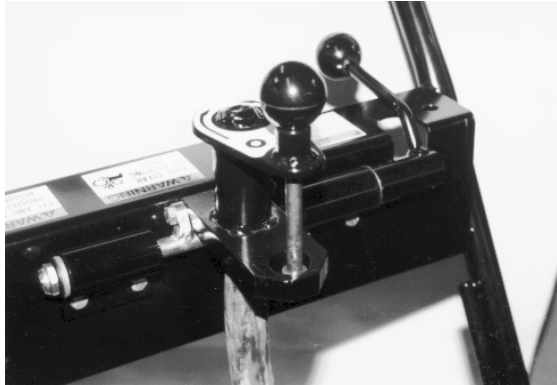

FIGURE 1
- 2) Rotate the height adjustment lever counterclockwise to raise the blade to its maximum position above the work surface. FIGURE 1.